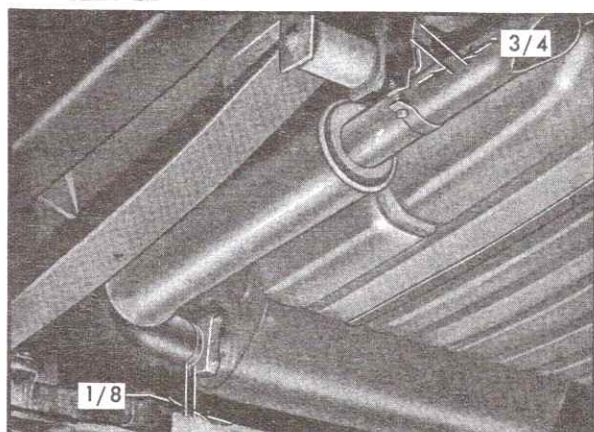

Fig. 8-9 Resonator (693)
3. Position resonator outlet hanger on blade and secure hanger to body with screws, Fig. 8-9.
4. Position clamp on joint of resonator inlet and muffler outlet with saddle of clamp 1/8 inch from end of muffler outlet, Fig. 8-9.
7. Position resonator hanger blade in its slot and secure hanger to body with screws, Fig. 8-9.
8. Install muffler to resonator clamp at muffler, Fig. 8-9.
4. Make certain that resonator is horizontal and that it has a minimum of 3/4" clearance from fuel tank and 7/8" clearance from rear leaf spring. The resonator outlet hanger blade should be centered from side to side and horizontal in rubber slot of support hanger. It must not bind when system expands. A small amount of silicone lubricant should be in rubber slot of hanger. Blade of hanger should protrude 3/4" from bracket, Fig. 8-9.